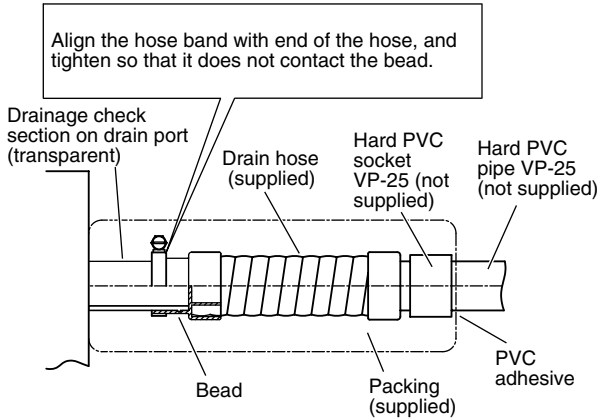

Fig. 3-63
The transparent drain part on the unit allows you to check drainage. (Fig. 3-63)
- Tighten the hose clamps so their locking nuts face upward. (Fig. 3-63)